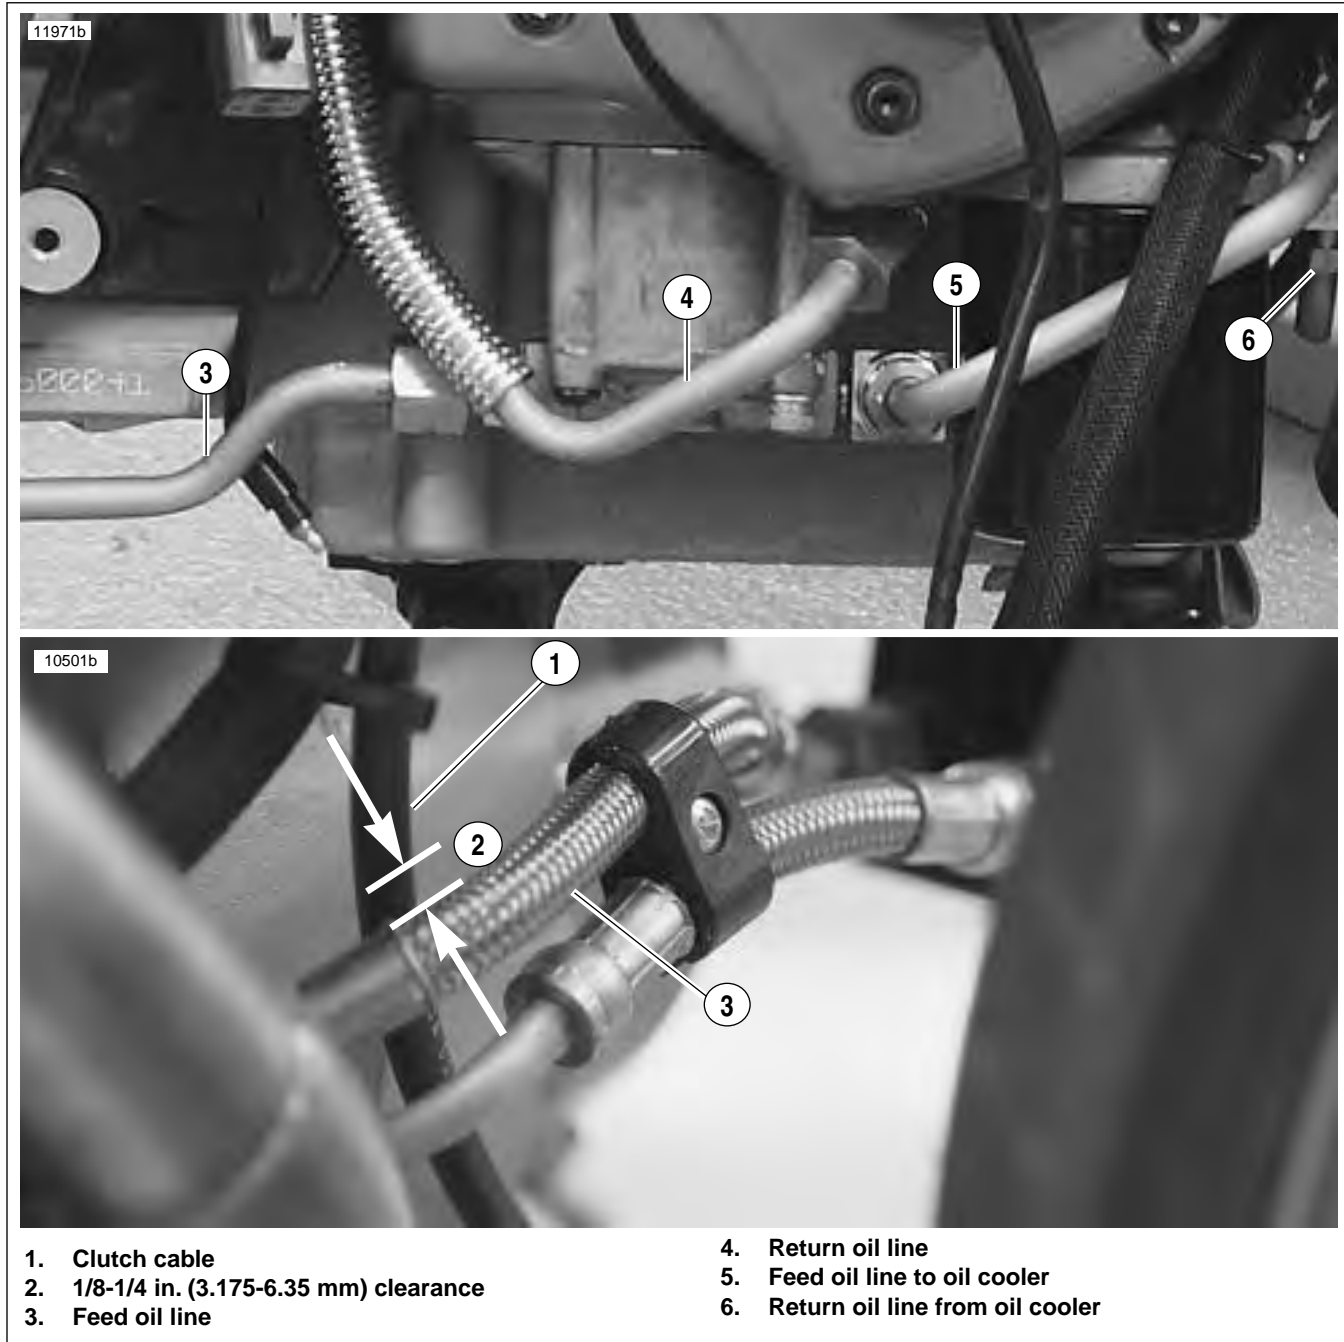

Figure 3-112. Oil Cooler Feed Oil Line Orientation (Approximately 2 O'Clock) and Oil Line Clearances
3. After the oil cooler is in place, apply Loctite 272 to the two fasteners (6) and tighten to 120-144 **in-lbs** (13.6-16.3 Nm).
4. Apply Loctite 272 to the stabilizer bracket fastener (8) and tighten to 66-78 **in-lbs** (7.5-8.8 Nm).
5. Install oil cooler scoop and apply Loctite 272 to the two fasteners (10) and tighten to 48-72 **in-lbs** (5.4-8 Nm).
8. See Figure 3-112. Verify that the clutch cable and feed line have a clearance of 1/8-1/4 in. (3.175-6.35 mm) between them.